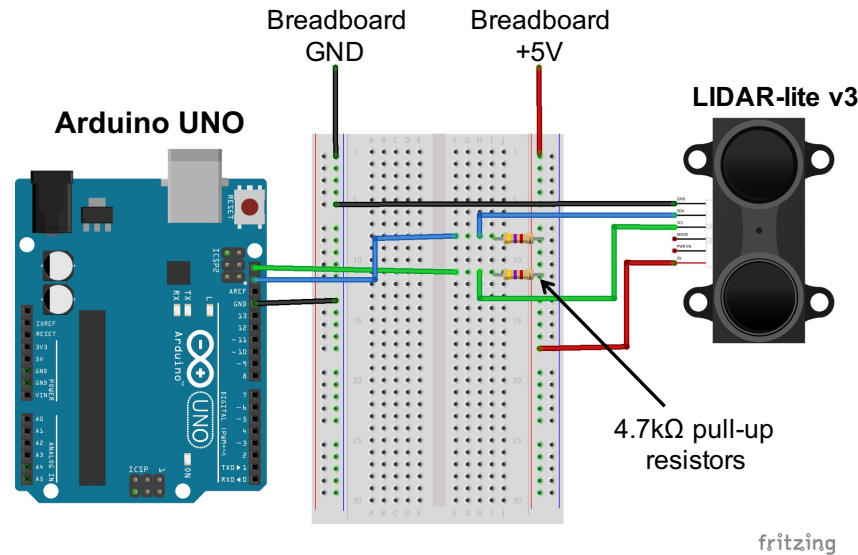

Figure 5 – The LIDAR sensor is connected to the Arduino via a breadboard.
IMPORTANT: The Arduino cannot provide enough current to power the laser, so you will need to use the 5V power supply on the breadboard. Also, it is recommended that you include 4.7 k Ω “pull-up resistors”, as illustrated in Fig. 5.
7. Connect the LIDAR sensor to the Arduino UNO via the breadboard, as shown in Fig. 5. (You may need to re-adjust the beaker clamp, so the wires can reach the breadboard.) Make the following connections using jumper wires: